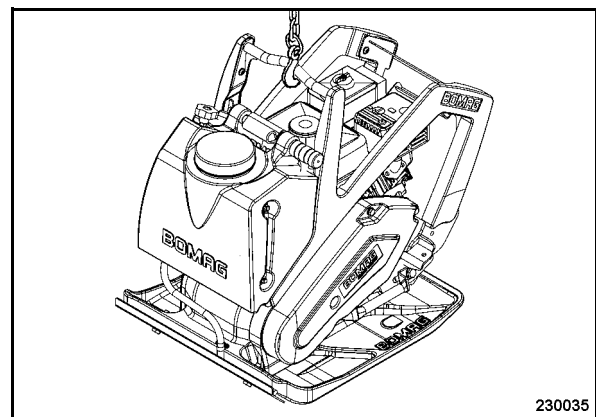

Fig. 32
- Attach the lifting tackle to the cross-strut to load the vibratory plate on a transport vehicle (Fig. 32).